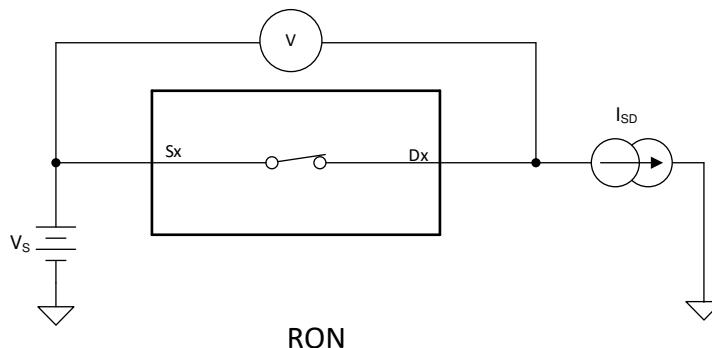

Figure 6-1. On-Resistance Measurement Setup
The on-resistance of a device is the ohmic resistance between the source (Sx) and drain (Dx) pins of the device. The on-resistance varies with input voltage and supply voltage. The symbol R_{ON} is used to denote on-resistance. Figure 6-1 shows the measurement setup used to measure R_{ON} . Voltage (V) and current (I_{SD}) are measured using this setup, and R_{ON} is computed with $R_{ON} = V / I_{SD}$.